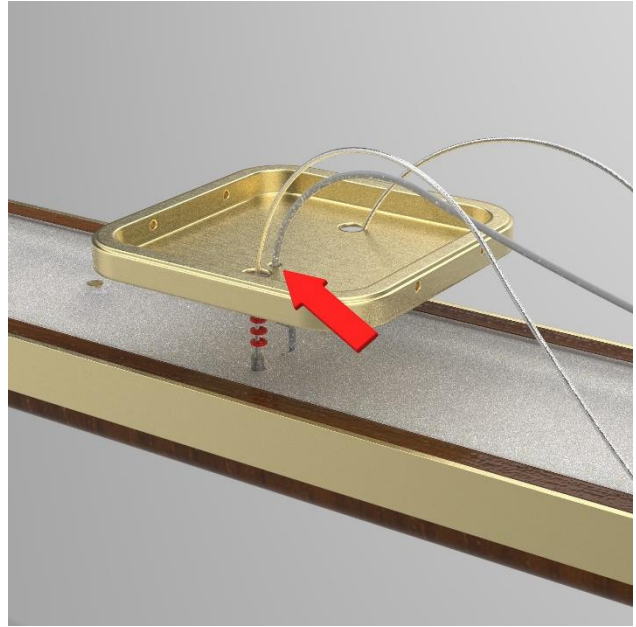

Figure 6
- On the power cord end of the fixture, use the decorative canopy with the third hole. (Fig 6)